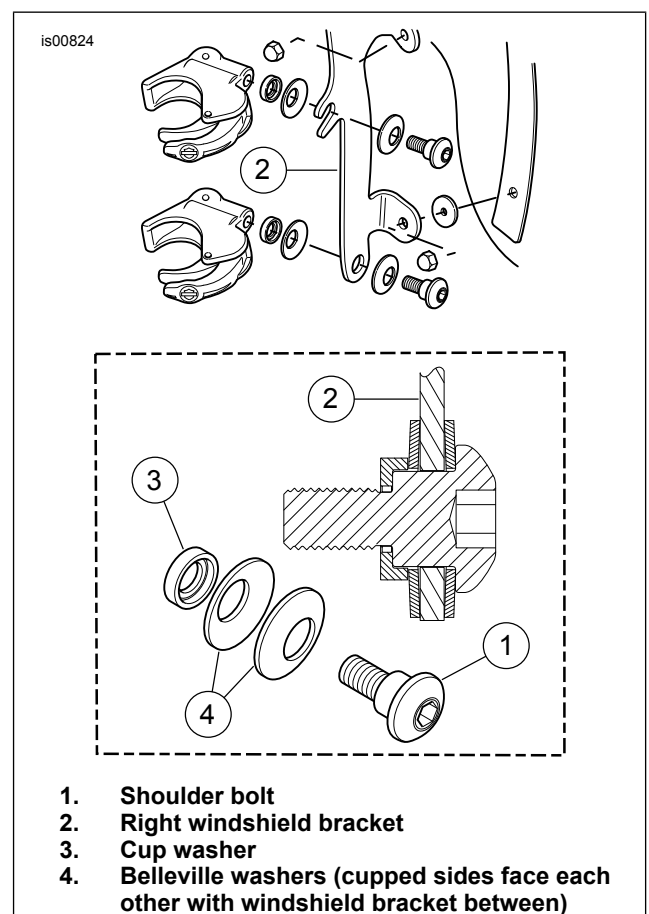

Figure 1. Windshield Mounting Clamp
3. See Figure 1. Assemble clamp assemblies and hardware stacks.